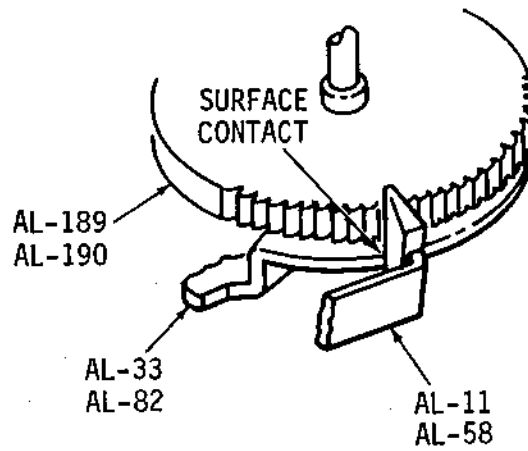

Figure 5-21. PAWL, RATCHET AND CAM MOVEMENT
- b. On left support plate (AL-8) of ribbon feed mechanism, loosen screw, washer (AL-47, 48), and pivot control spring (AL-46) upward and towards the front of the printer (to avoid contact with ribbon releaser (AL-33) (Fig. 5-21).
- d. Adjust the ribbon rod links (AL-98, 97) so that the cam (part of left and right ribbon releasers - AL-33 82) is just contacting the left and right ribbon pawls (AL-11, 58) at that point where the ribbon feed pawls are fully engaged with their respective left and right ribbon feed ratchets (AL-189, 190) (See Fig. 5-21).